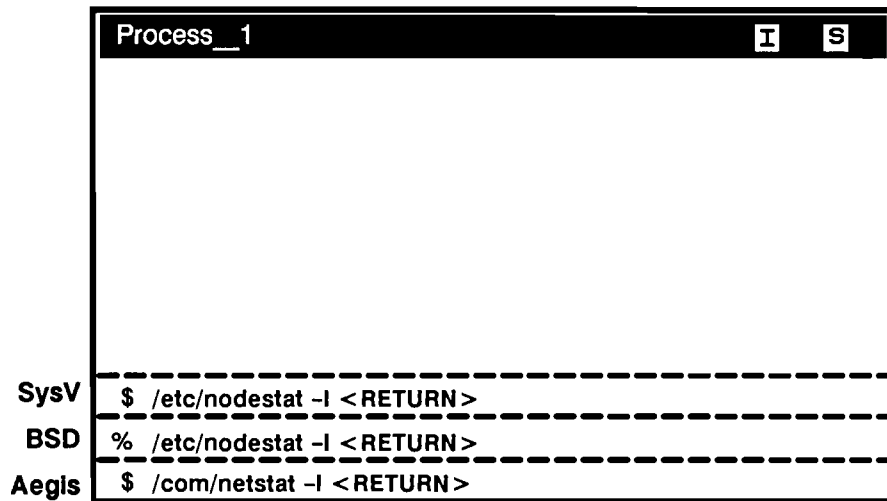

Figure 8-1. Using the *nodestat* or *netstat* Command
2. If the problem continues, go to another node in your network and type the command shown in Figure 8-1.